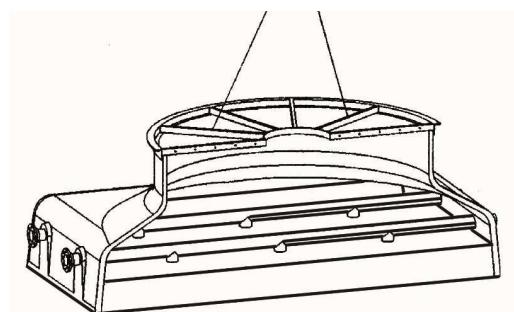

Fig. 7
- In the part not including the electric motor, hook a sling to two of the spokes (or to the eye bolts) of the fan supporting ring in the way shown on Figure 7.